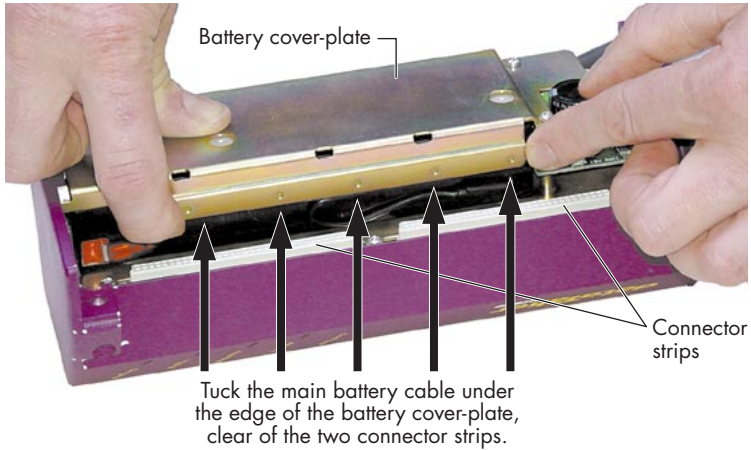
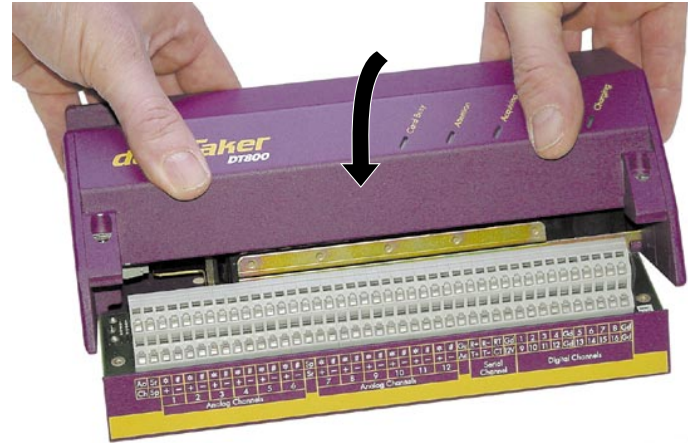
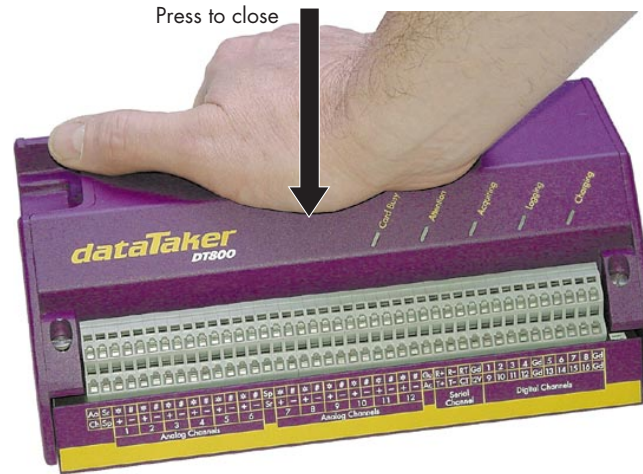

FIGURE 26 Fitting the main battery cable under the edge of the battery cover-plate
FIGURE 34 Closing — 1
FIGURE 35 Closing — 2
- 2 Swing the front of the DT800 down onto the base (Figure 34). Press firmly to mate the connector strips inside (Figure 35). If the top of the DT800 won't press home, check that the main battery's cable is not trapped between the connector strips — refer to Figure 26 on page 34.